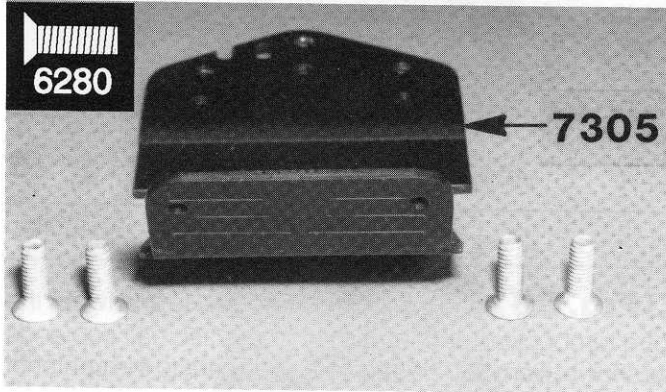

Fig. 17
□ **Figs. 17 & 18** From Bag 7-4 remove the #7305 chassis nose plate. Use the four 8/32 x 1/2" aluminum screws from Bag 7-1 as shown. Install the nose plate to the bottom of the front bulkhead with the four screws. Use a #2 Philips screwdriver and tighten the screws all the way up until they're snug. **DO NOT OVERTIGHTEN.** If you try to tighten them too tight, you'll strip out the plastic.